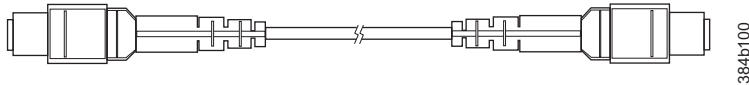

Figure 54. Female-to-female patch cable for QFSP connections
- Use female-to-female patch cable (Figure 54) with the following specifications: